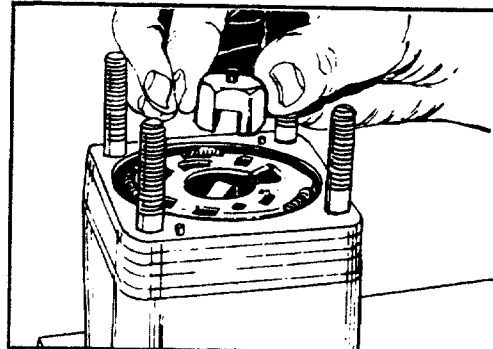

FIGURE 81.
33. Place hex drive assembly (10), pin side up, through the hole in the isolation manifold (15). The slot in the hex drive must be engaged with the small tang of the drive link (16). Turn the input shaft/wheel tube to assist the engagement. See figure 81.